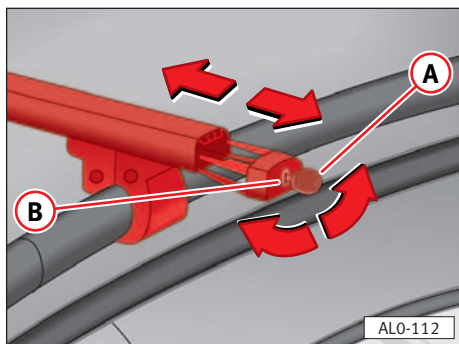

Fig. 116
- 1 – Turn key **A** inside lock **B** of the bar, and pull ⇒ fig. 116. ▶